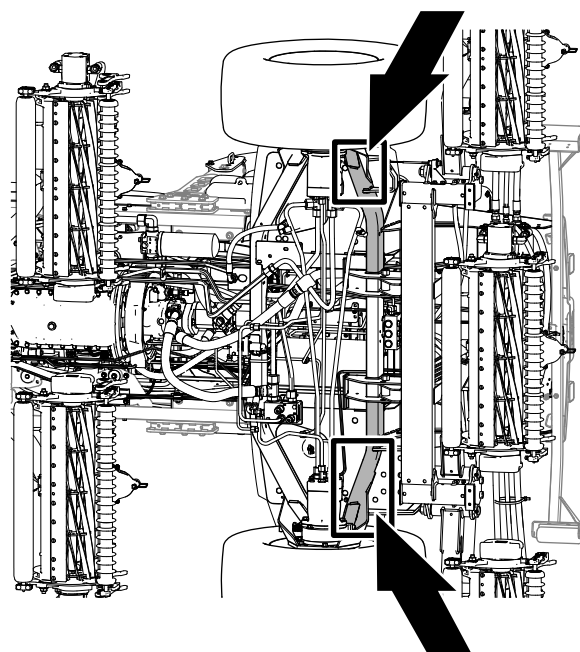

Figure 110
- Front of the machine—at the frame of the machine, forward of the wheel-drive motors (Figure 110).